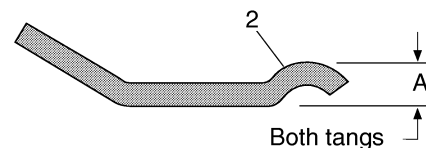

Fig. B-4 Governor Shaft and Fork Inspection
1. Inspect the governor shaft (1), governor fork (2), and shaft retainer (3) for damage of any kind. Check governor fork tangs for wear (Ref Fig. B-4 on page B-2).